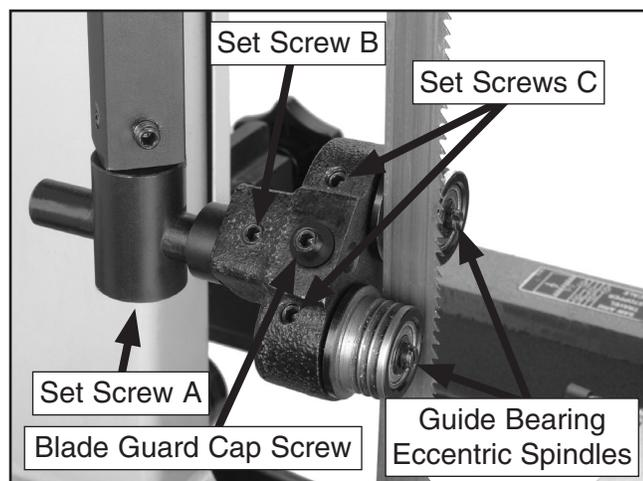

Figure 34. Upper blade guide controls.
3. Familiarize yourself with the blade guide controls shown in **Figure 34**.